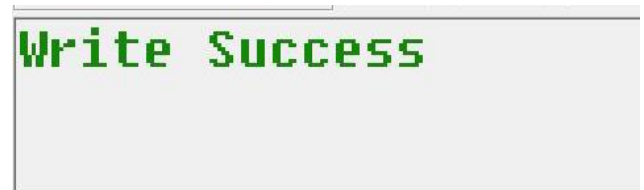

Figure 22
3.4 Wait until the prompt "Write Success" is displayed, indicating that the programming of the module is complete (as shown in Figure 22)